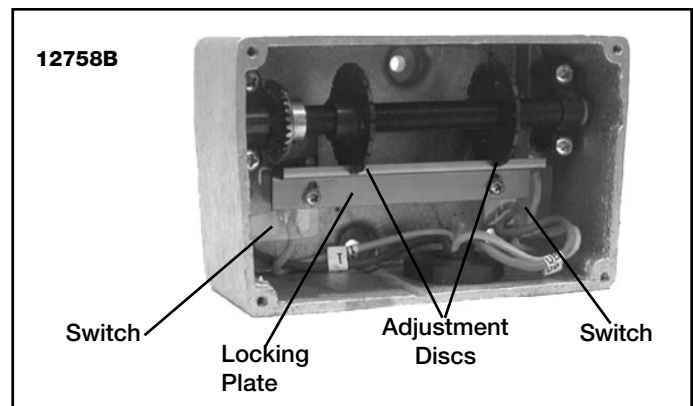

Figure 7-2. Screw-Type Limit Switch Adjustment (Wires Not Shown for Clarity.)
- b) **Procedure.** Remove load from the hook. To disconnect the geared limit switch, refer to Figure 7-2. Remove the limit switch cover then loosen the two (2) screws holding the locking plate in place. Allow the locking plate to slide down and disengage from the adjustment discs. Do not rotate the adjustment discs.
Position the lower block three inches (3") below the point where the block operated limit switch is activated. The geared limit switch shall be reconnected by sliding the locking plate back into position ensuring slots on adjustment discs are fully engaged and tightening locking plate screws to 4 in-lbs. (See Figure 7-2). The geared limit switch must then be tested.
discs operate the contacts of separate switches, one for the hoisting circuit and one for the lowering circuit. The switch assembly must be wired in accordance with the appropriate wiring diagram, which is shipped with the hoist. Instructions for adjusting limit switch are inside cover and are repeated below (see Figure 7-2).